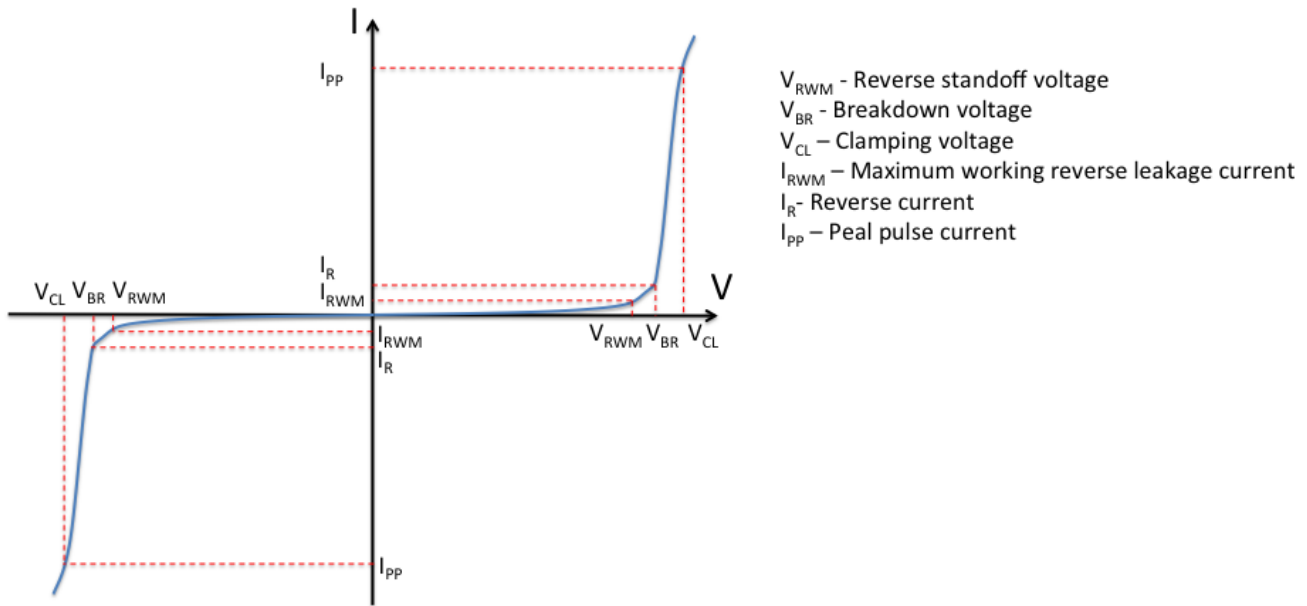

Figure 1. TVS I-V Curve
**Breakdown Voltage** – Breakdown voltage is the voltage threshold where the TVS diode becomes more conductive to ground and allows higher amount of current flow from cathode to anode. Figure 1 shows a typical TVS I-V curve, and as we can see after the  $V_{BR}$ , the current shot up very quickly as the TVS became very conductive. The voltage increases until it hits the clamping voltage where the TVS effectively becomes a resistor that shorts to ground. With a large amount of current passing through the TVS, it will eventually burn up and destroy the diode in this clamped state.